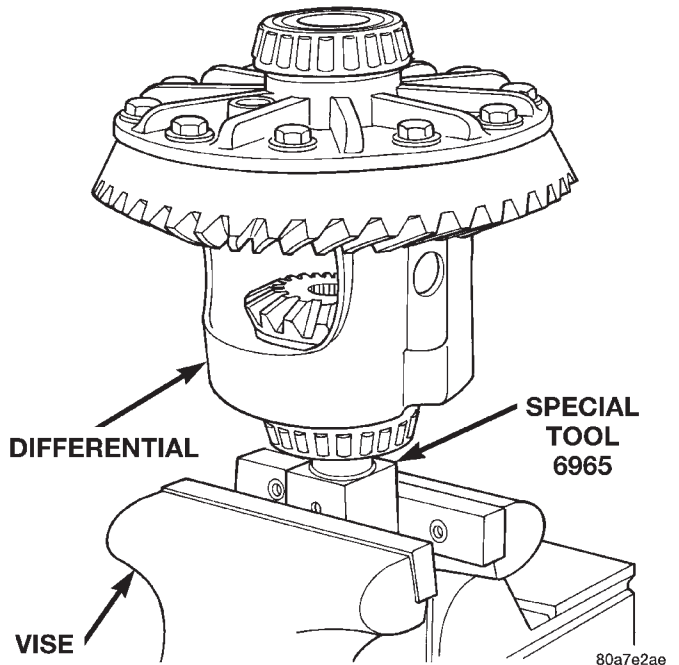

Fig. 52 Differential Case Holding Tool
- (1) Clamp Side Gear Holding Tool 6965 in a vise.
- (2) Position the differential case on Side Gear Holding Tool 6965 (Fig. 52).
- (3) Remove ring gear, if necessary. Ring gear removal is necessary only if the ring gear is to be